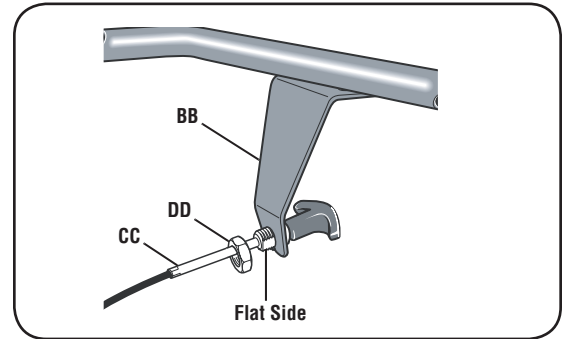
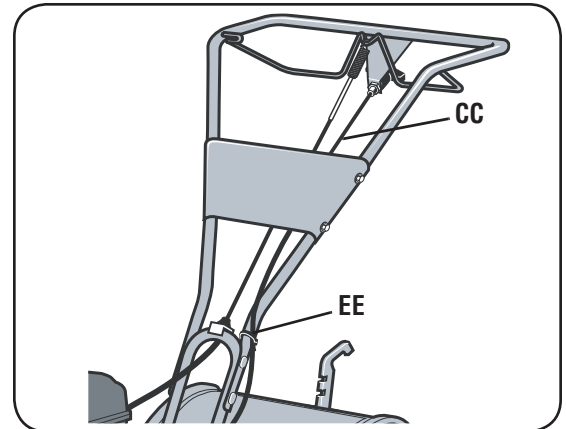

Fig. 2-8: Install reverse cable bracket and reverse clutch cable.
Fig. 2-9: Route reverse clutch cable (CC) as shown. Attach with cable tie (EE).
- Unwrap the reverse clutch cable (CC, Fig. 2-8 and Fig. 2-9) from its shipping position and route it up to the handlebar. Be sure that the cable is routed beneath the Forward Clutch Bail.
- Insert the cable (CC, Fig. 2-8) through the slot in the cable bracket and position the flat side of the threaded assembly next to the flat side of the hole. Slide the hex nut (DD) up the cable and tighten it securely.
- Fasten the reverse clutch cable to the left side handlebar with a cable tie (EE, Fig. 2-9).